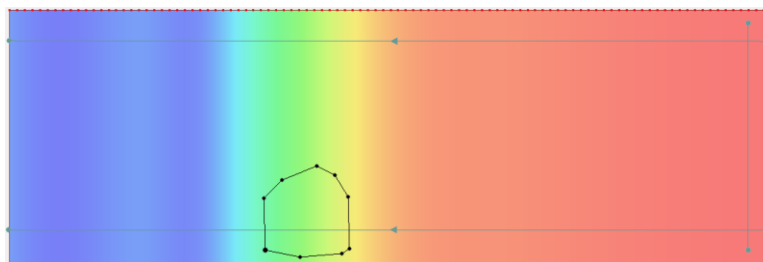

Figure 8 Area with different roughness
2. Using the **Create Feature Arc**  tool, click out a polygon enclosing an area with different roughness, as shown in Figure 8. The polygon does not have to be exactly the same as shown in Figure 8, but should cover a similar area.